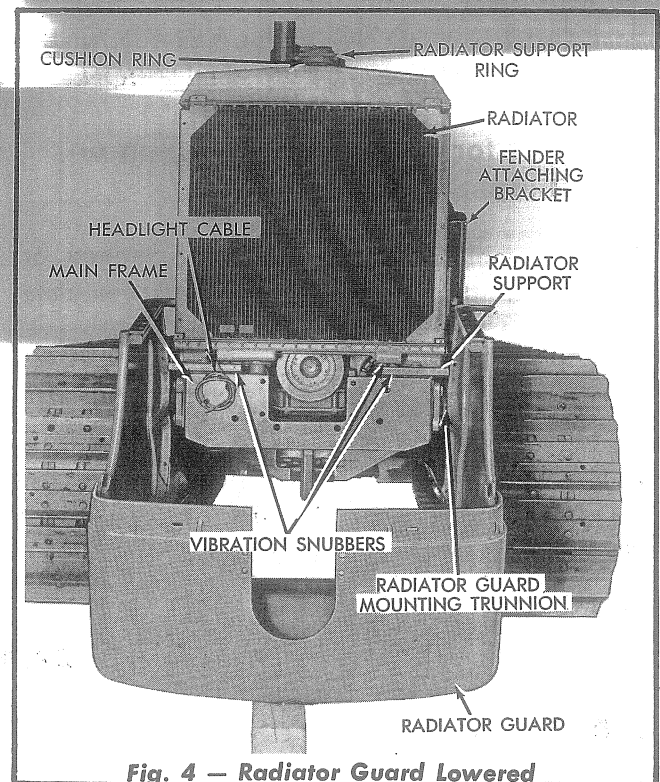
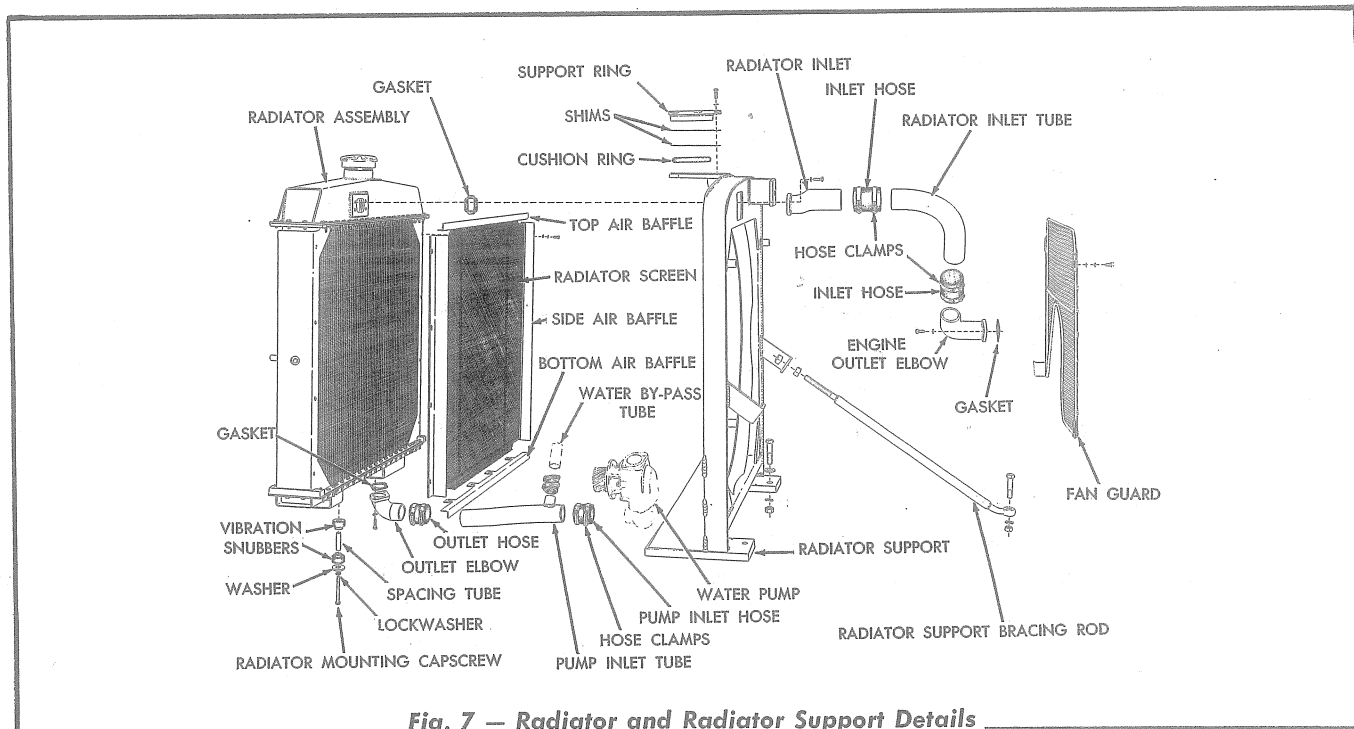

Fig. 4 — Radiator Guard Lowered
Fig. 7 — Radiator and Radiator Support Details
The radiator is of the conventional tubular type, consisting basically of a core, top and bottom tanks, and side members. The radiator support (Fig. 7) is a heavy steel weldment attached to the tractor main frame and is braced with two radiator support bracing rods. The radiator support also serves as a fan shroud. The radiator is supported on the radiator support by rubber vibration snubbers, located at the bottom of the radiator as shown in Figs. 4 and 5. A rubber cushion ring and a radiator support ring (Fig. 7) are used to secure the top of the radiator to a bracket welded to the top of the radiator support. A double acting valve is provided in the radiator cap for relieving pressure due to expansion (from heating of the coolant) and to allow air, at atmospheric pressure, to enter when contraction occurs (due to cooling of the coolant). A small hole is provided in the radiator cap, above the pressure valve, for venting and overflowing.
The radiator guard must be removed or lowered, as shown in Fig. 4, in order to remove the radiator.
allow it to pivot on its trunnions until it is lowered as shown in Fig. 4.
1. Drain the engine cooling system (refer to Topic 3 in this Section). Remove the radiator cap. Remove the capscrews attaching the radiator support ring (Fig. 7) to the bracket welded to the top of the radiator support and remove the support ring, shims, and the cushion ring.
5. Install the cushion ring, shims, and radiator support ring (Figs. 4 and 7) in position and install the cap screws (with lockwashers) to secure the support ring to the bracket welded to the top of the radiator support.